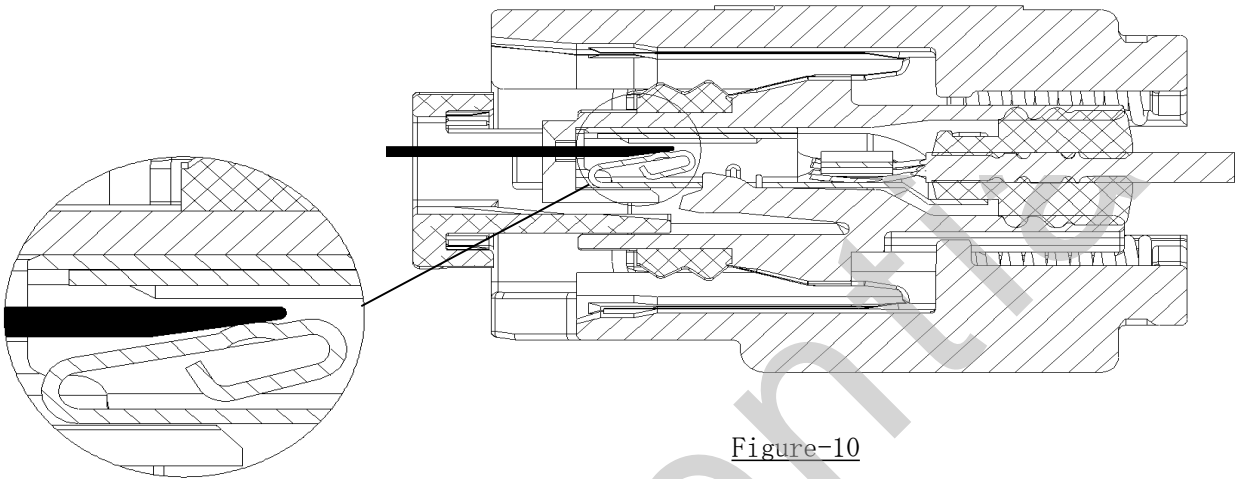

Figure-10
- Do not insert the tool inside of a terminal. (Figure-10)